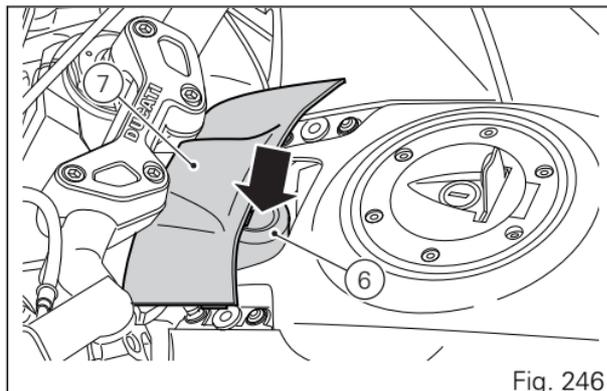
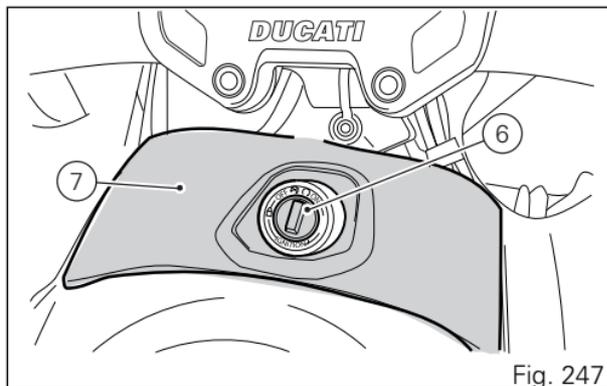
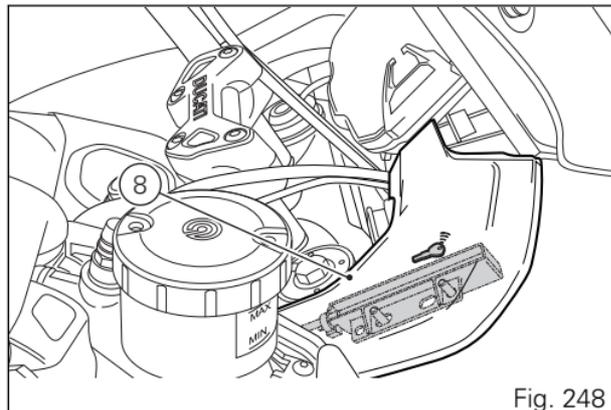

Fig. 246
Fig. 247
Fig. 248
(Fig. 246) indicates the position of the Hands Free unit (6), with protection lid (7) and (Fig. 247) indicates the position of the Hands Free unit (6) for the US version, while (Fig. 248) indicates the position of the antenna (8).